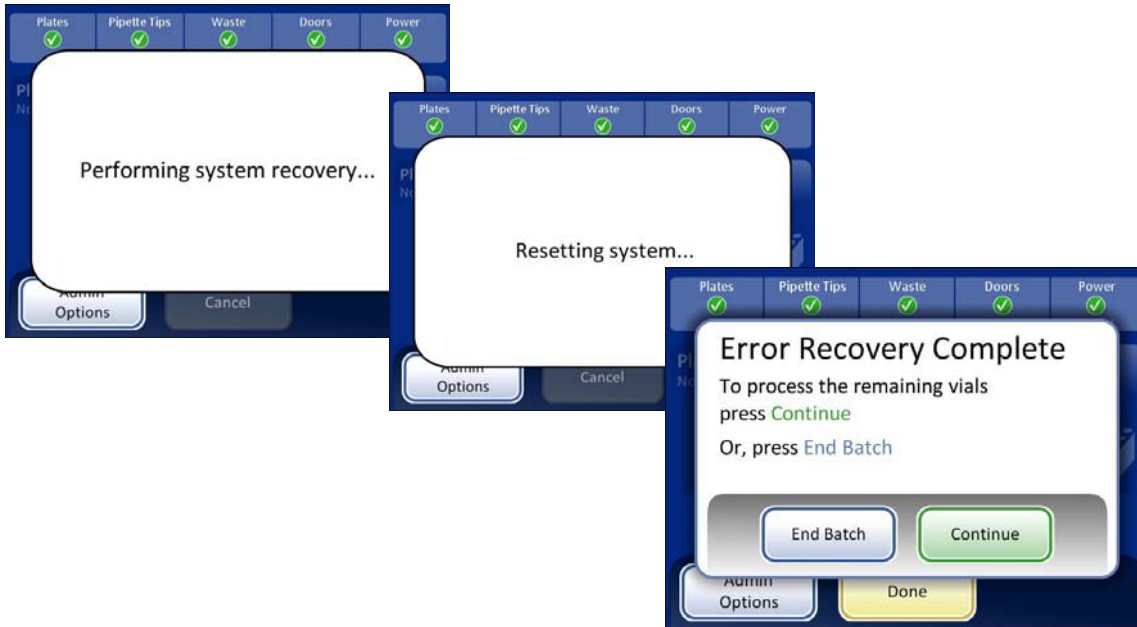

Figure 6-2 System Error - Example
- Display the error message and sound the audible alarm, if enabled (see Figure 6-1.) The system attempts to recover (a minute or less). See Figure 6-2 as an example.